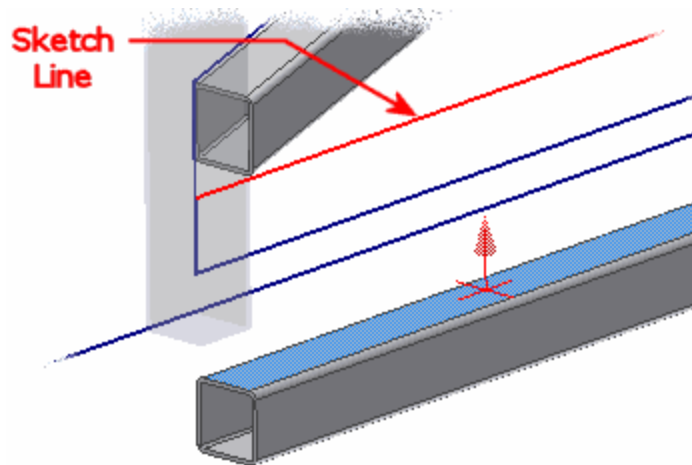

Figure 17: Face/Line mate constraint.
6. Click the Face highlighted in Figure 17 and then click the visible sketch edge, which is also highlighted. The edge is geometry in the derived sketch in the FrameLayout part.